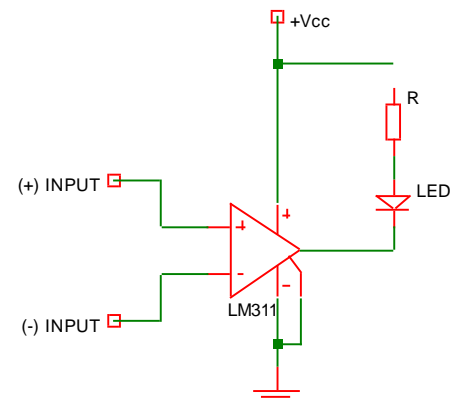

Fig. 3: PWM driver using LM311 comparator.
- Use the LM311 comparator to directly drive the LED (see Fig. 3).